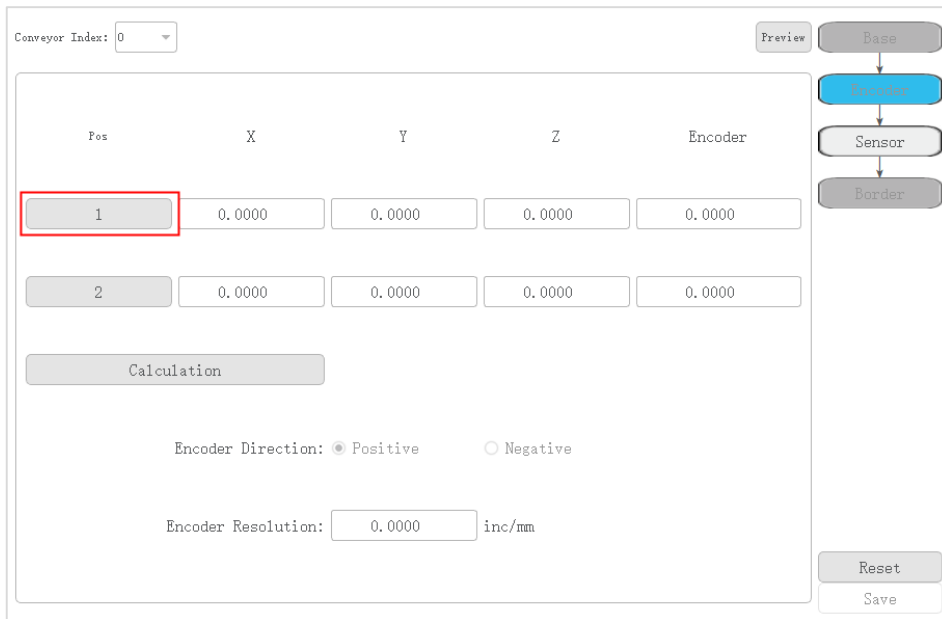
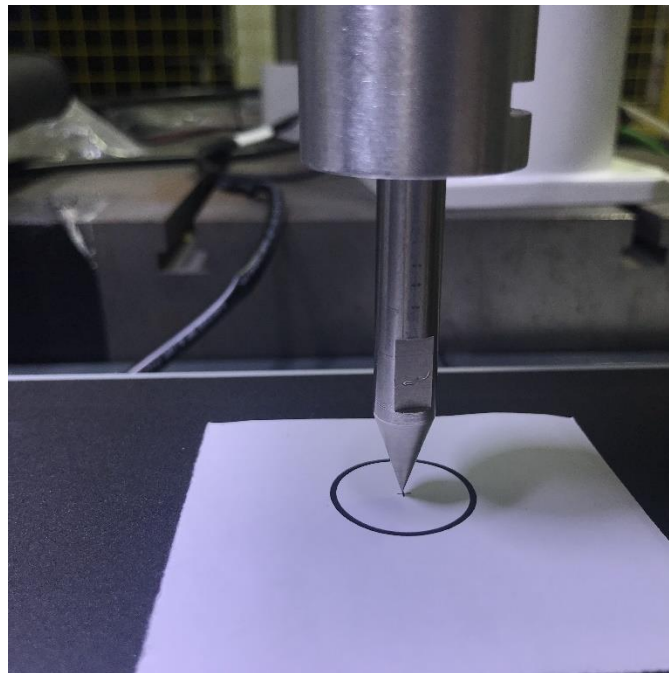

Figure 5.11 Encoder calibration page
Figure 5.12 Encoder calibration
2. Jog the robot to the label position on the conveyor, then click **1**, as shown in Figure 5.11 and Figure 5.12.